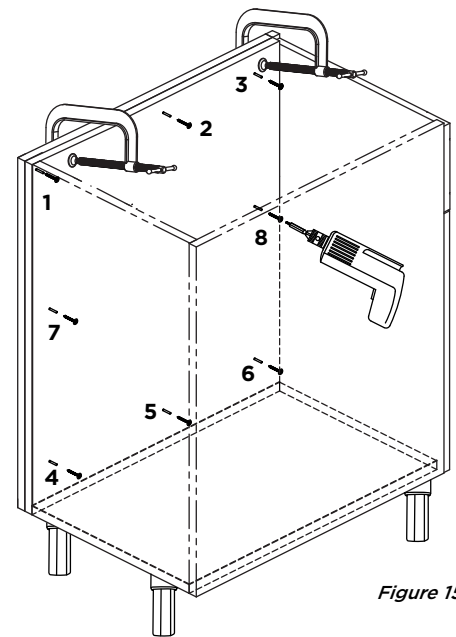

Figure 15
4. From inside the cabinet, drill three evenly spaced pilot holes along the top edge at points 1, 2, and 3. Install one #8 × 1-1/4" stainless steel screw into each pilot hole and tighten securely. (See Figure 15.)